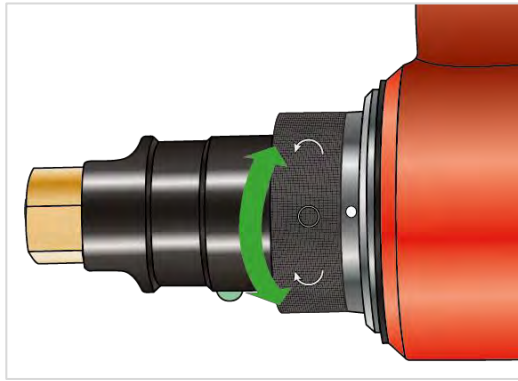

FIGURE 9 – Collar for \curvearrowright , \circ or \curvearrowleft operation
All tools are fitted with a direction collar, see Figure 9.
1. Turn the collar, Figure 9, to select direction.